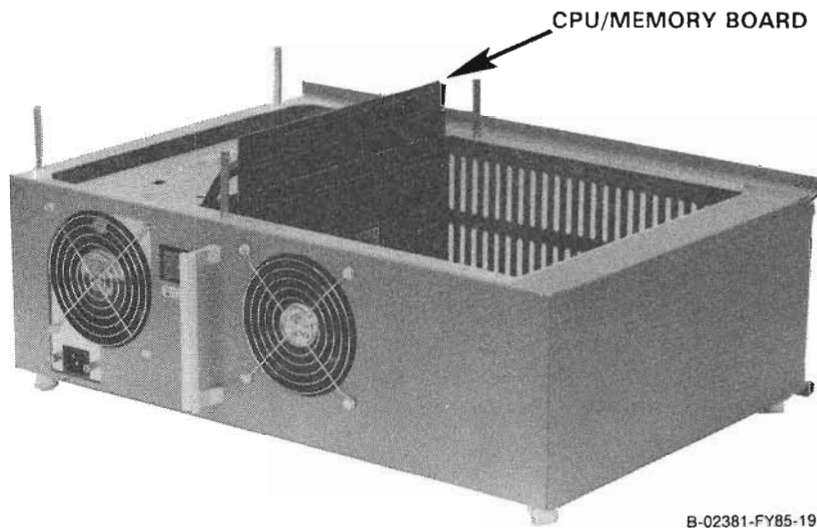

Figure 5-7 CPU/Memory Board
1. Insert the CPU/Memory board into its slot in the Micro VP motherboard. (Ref. Fig. 5-7).